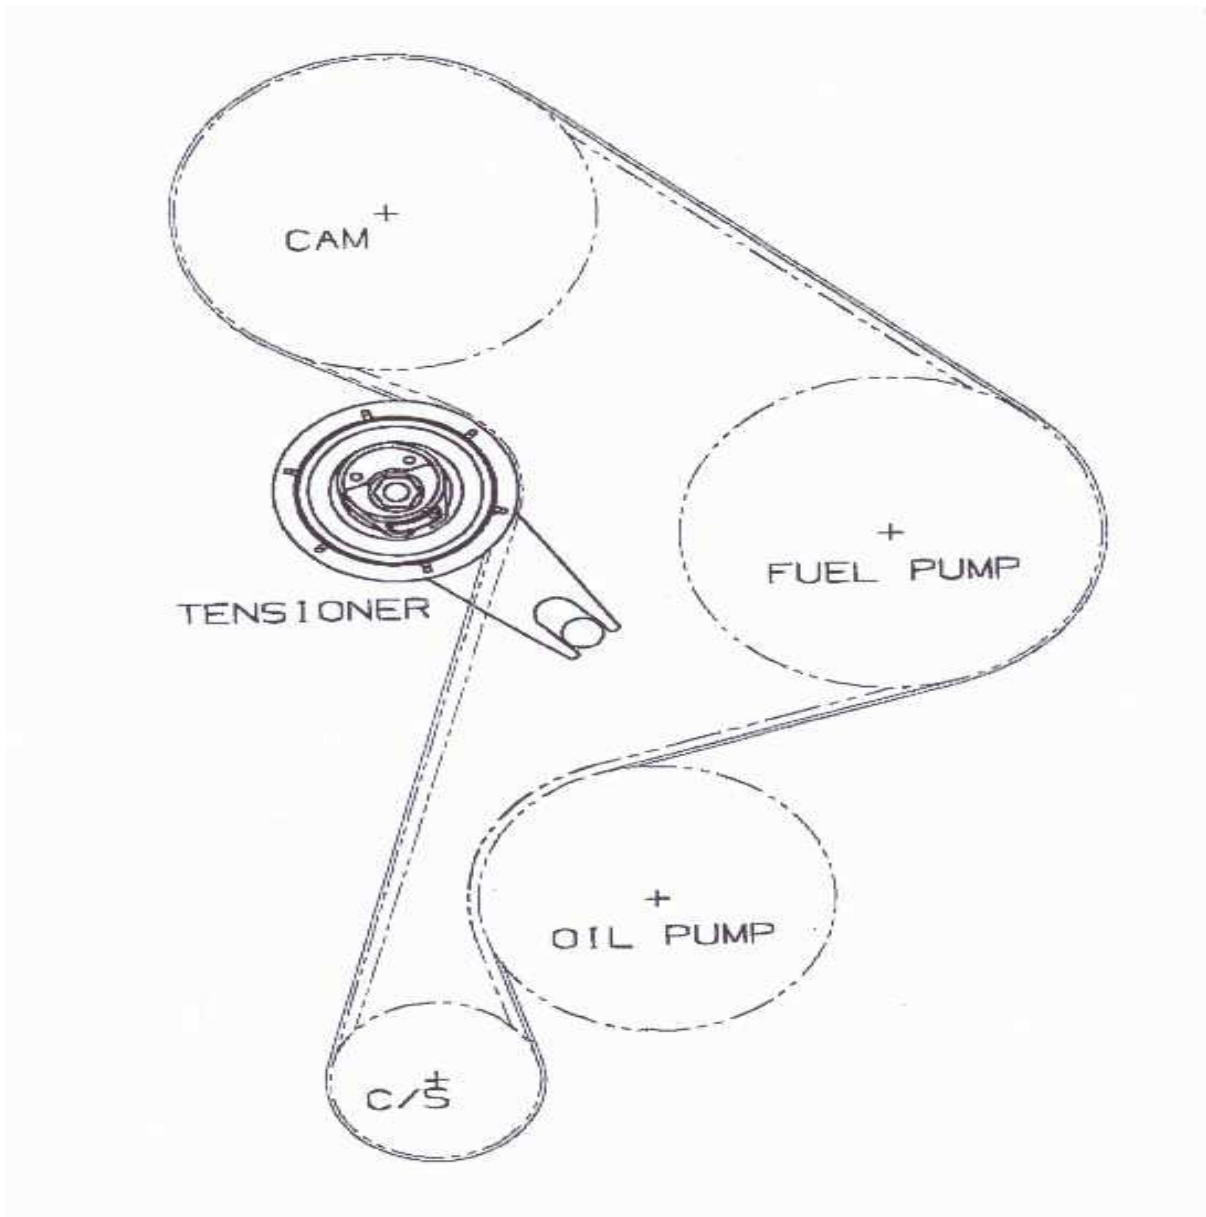

Figure 2: Belt layout for 979229 (VW 1.9L Diesel, I4.)
5. Install the timing belt being careful to engage the appropriate teeth of all the corresponding sprockets as per drive layout (See Figure 2).